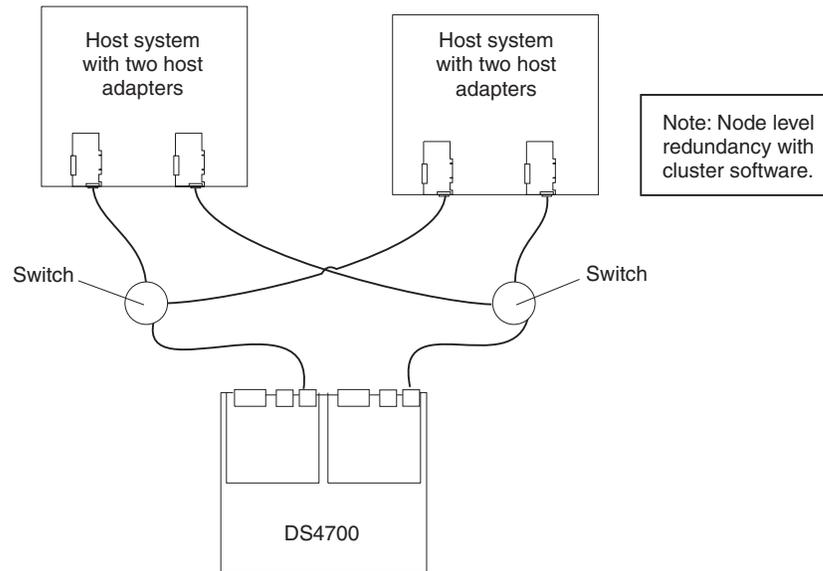

Figure 71. Example of a dual SAN fabric configuration
- Dual SAN fabric configuration, as shown in Figure 71 on page 85
In Figure 71, the fibre channel switches are connected together via the inter-switch link (ISL) to form a dual SAN fabric.